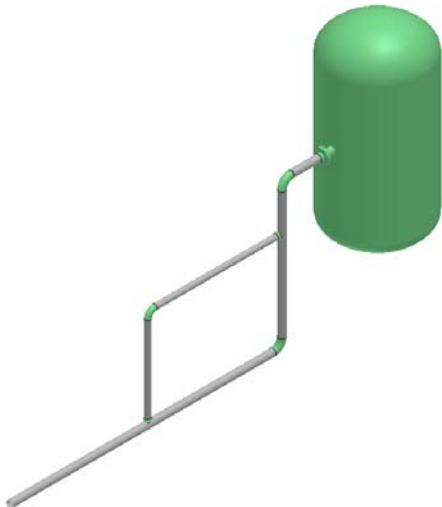

Figure 37: Bypass line
16. You now see an outline of the pipe run in your model. Route the pipe run to complete the bypass line, as shown in Figure 37.